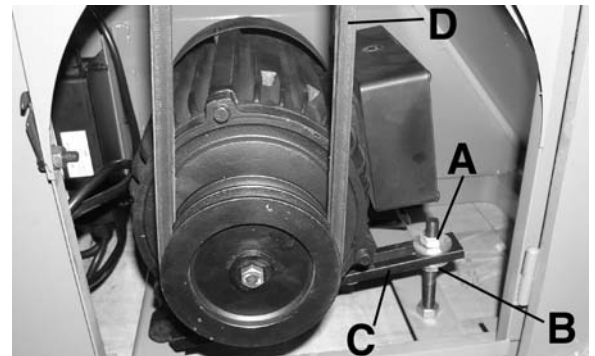

FIGURE 17
3. To adjust belt tension, turn nuts (A) and (B) Fig. 17 to move motor plate (C) up or down until there is approximately 1/2" deflection in the center span of the V-belts (D) using light finger pressure.